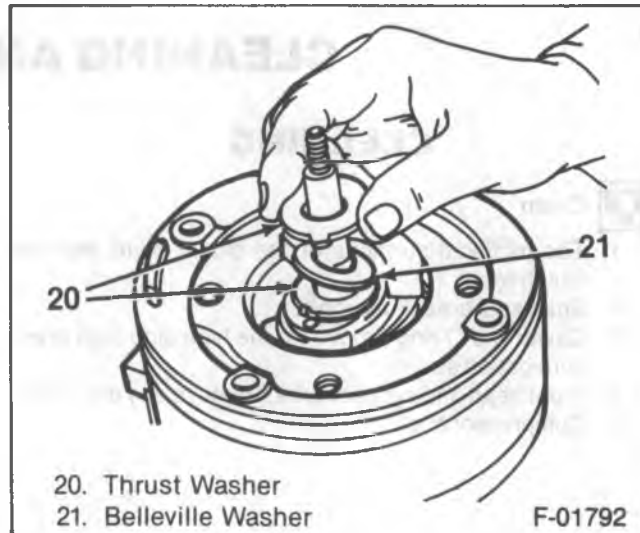

Figure 26—Replacing the Thrust and Belleville Washers
5. New belleville washer with the high center in the up position (figure 26).